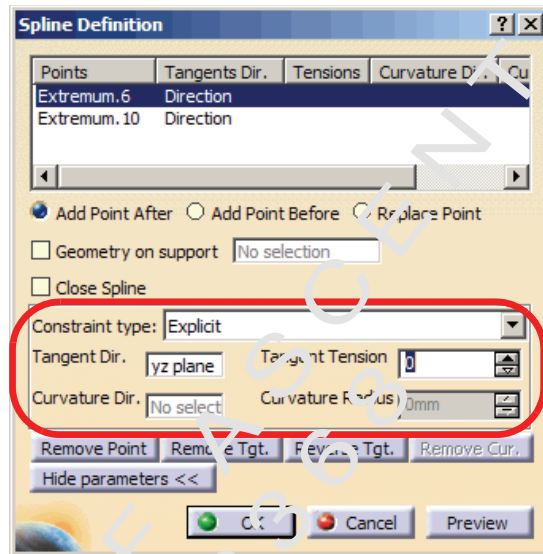

Figure 1–36
5. Select **Extremum.6** in the *Points* column in the Spline definition dialog box, as shown in Figure 1–36.